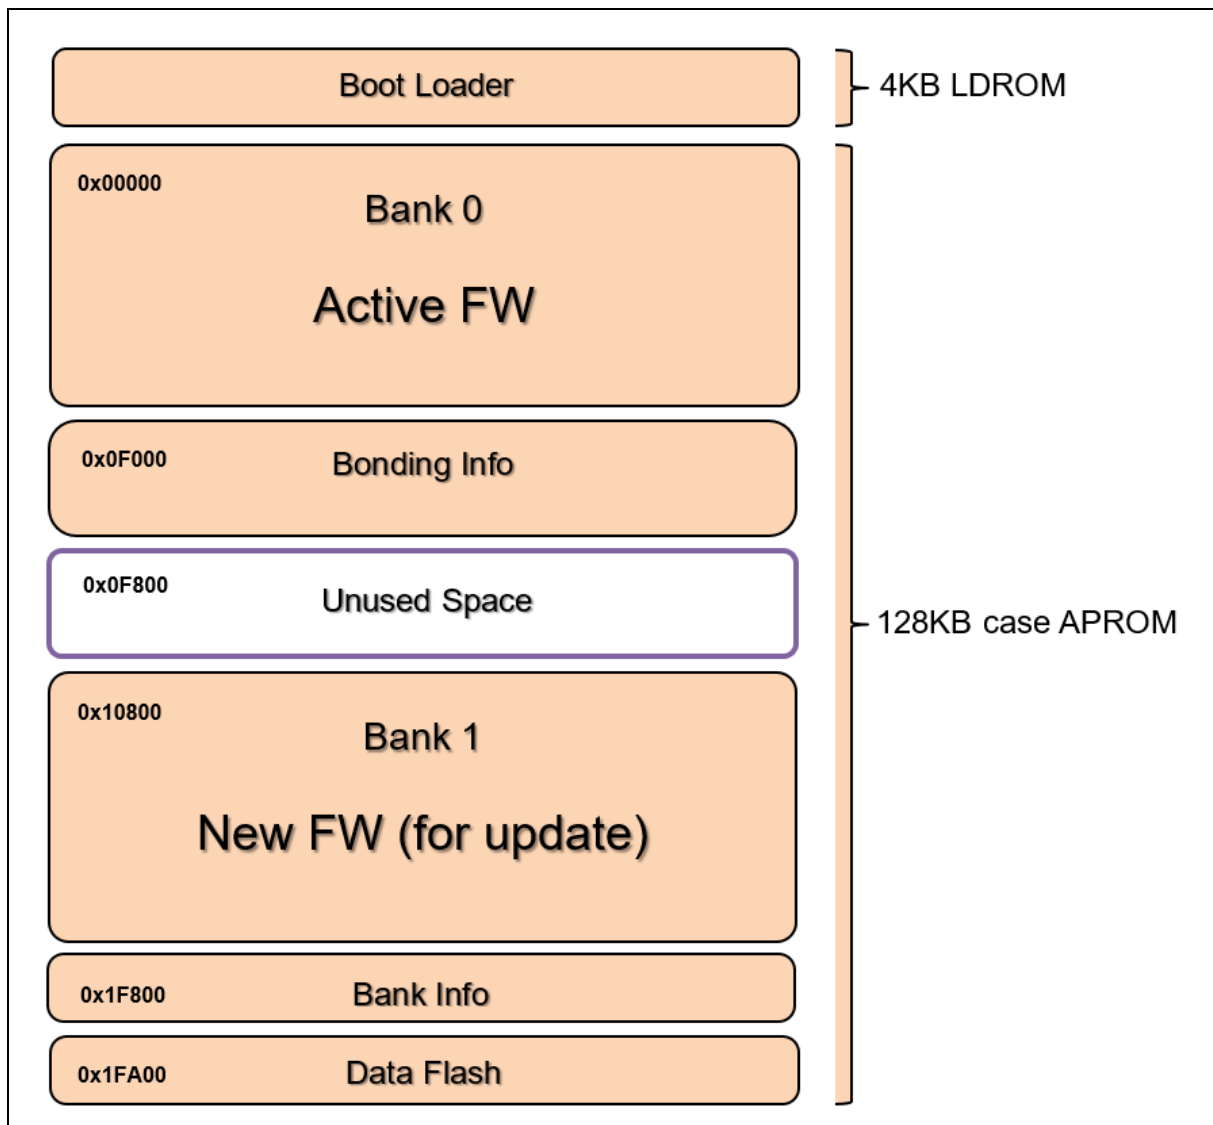

Figure 2-1 Flash Memory Layout
The Flash memory layout is shown in Figure 2-1. The BLE SDK utilizes dual-bank Flash to perform FOTA updates to ensure a valid image is activated. Bank 0 partition of the dual-bank Flash is configured as an active firmware (FW) block, and Bank 1 partition is configured as the FW update buffer.